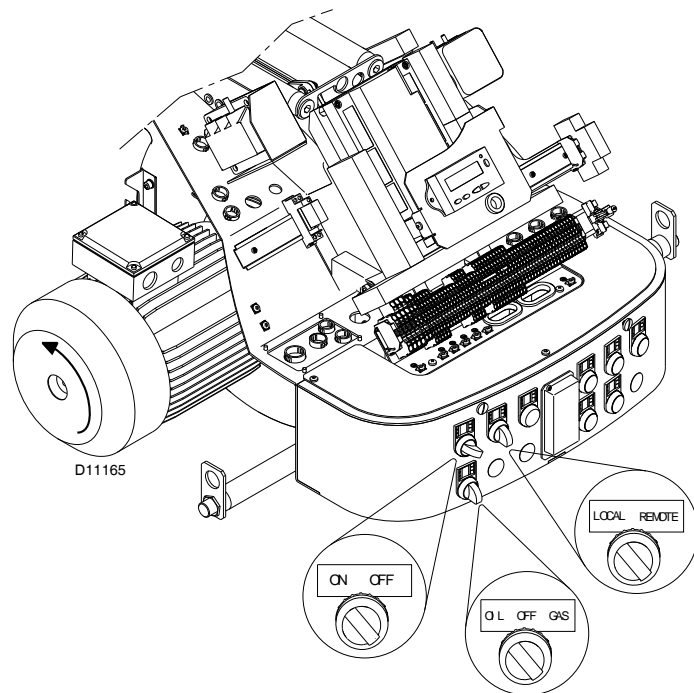

Fig. 45
Turn the switch to position “ON” (Fig. 45) and turn the switch of to position “LOCAL” and turn the switch to position “OIL” for oil operation and “GAS” for gas operation.
When the burner starts, check the direction of the motor rotation, as indicated in Fig. 45.
- place the switch of Fig. 45 in position “OFF” and wait for the control box to carry out the switch-off phase;